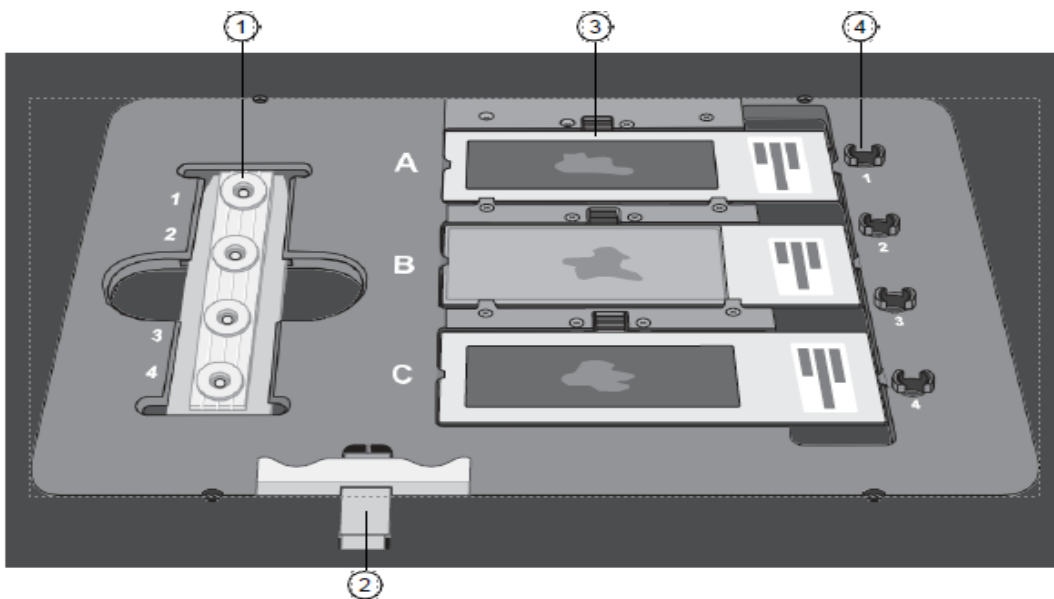

Figure 4
For example, if you are loading a slide in position A, select the **Load Slide A** box. The positions of the slides are found in Figure 4.
2. Select the checkbox for each CapSure™ Cap that is loaded, or click **Load All Caps** if all 4 caps have been loaded. The cap positions are shown in Figure 4.